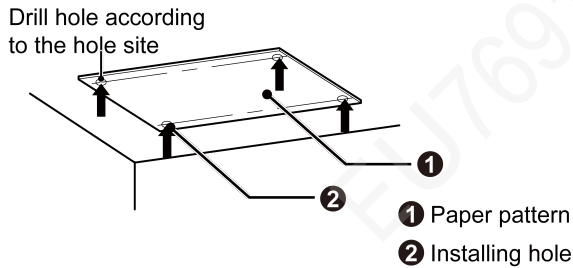
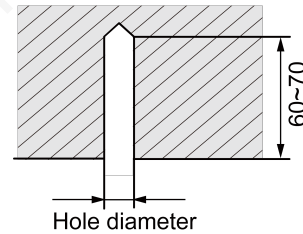

Fig.4.1.2
Fig.4.1.3
- 1) Stick the reference cardboard on the installation position; drill 4 holes according to the hole site on the cardboard as shown in Fig.4.1.2; diameter of drilling hole is according to the diameter of expansion bolt and the depth is 60-70mm, as shown in Fig.4.1.3.